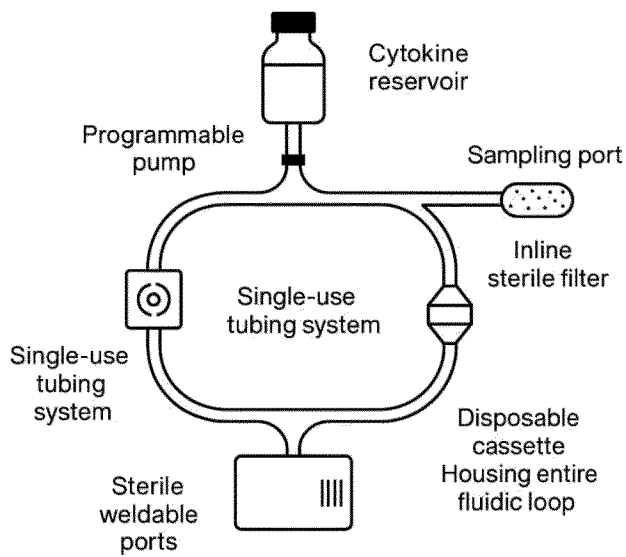

Figure 1
- **FIGURE 1:** Cytokine Dosing Logic Circuit